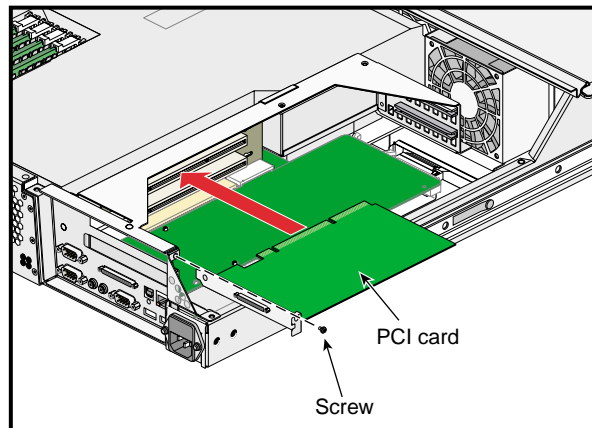

Figure 3-5 PCI Card Installation
6. If a blanking plate covers the slot that is needed for the installation, remove the retaining screw as shown in Figure 3-5 and the blanking plate.
8. Install the retaining screw as shown in Figure 3-5.
7. Insert the full-height PCI expansion card into PCI slot 2 by pushing the card into the connector until it is properly seated (refer to Figure 3-5 on page 59).